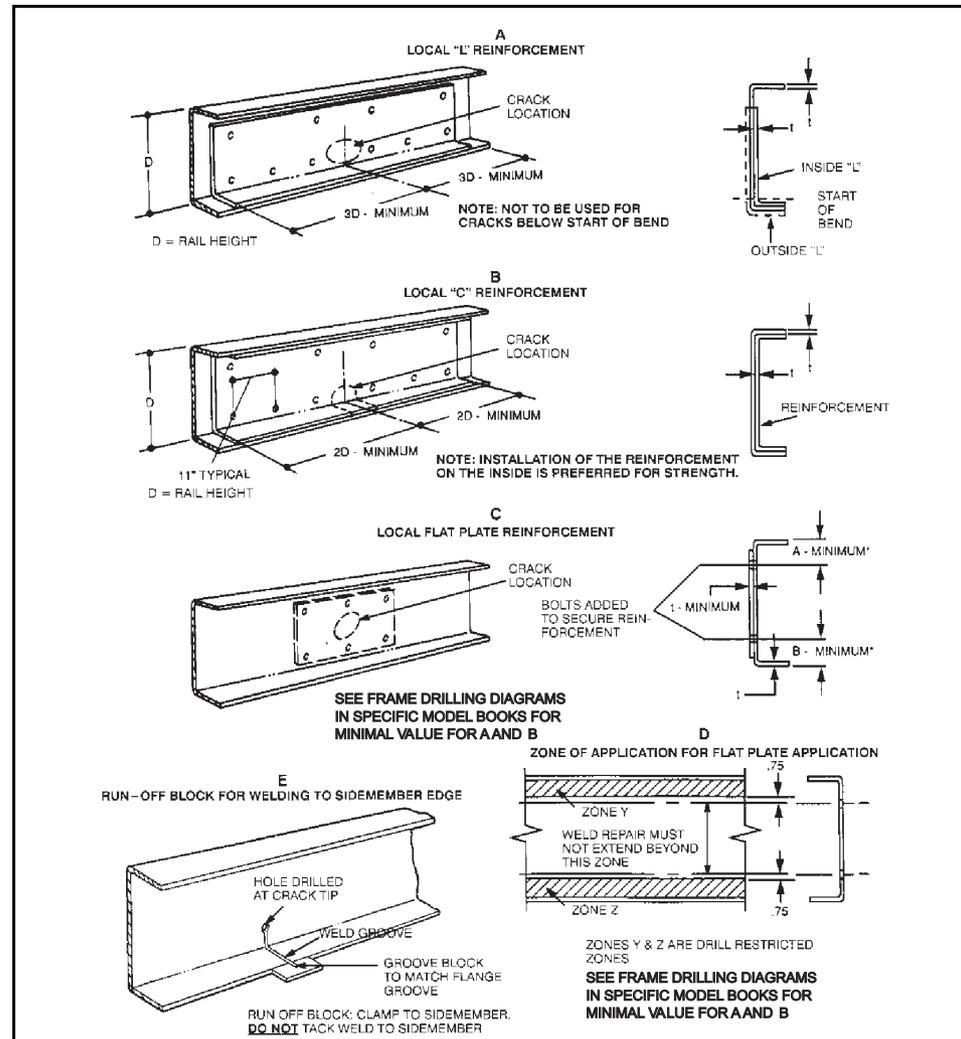

Figure 2.5 Reinforcement Application
THE TYPE, LENGTH, MATERIAL AND ATTACHMENT TECHNIQUES FOR REINFORCEMENTS VARY WITH THE TYPE AND LOCATION OF THE CRACK AND WITH THE LOADING CONDITIONS ASSOCIATED WITH THE CRACK. It is not practical to give specific recommendations for all cases of frame cracking, therefore the various types of reinforcements are identified with general descriptions of their applications and installation procedures. To aid in making the distinctions between the more critical flange area and the less critical web area, critical zones are defined (Figure 2.5 D).
Steps 1 and 2 above also apply to the full length “L” reinforcements available from International. All of these are the inverted “L” type and are designed for installation on the outside of the sidemember section (except 9000 Series) (Figure 2.5 A).
This type of reinforcement must be custom-fabricated either by cutting lengths from “full length” reinforcements or by forming from flat stock (Figure 2.5 B).
2. Recommended dimensional data and attachment specifications for a typical installation (Figure 2.5 B). Holes drilled for the attachment must be within the frame drilling guidelines in the specific model body builder book.
This type of reinforcement is recommended for cases in which the weld repair is confined to the web of the section but extends beyond the application zone of the flat plate reinforcements (Figure 2.5 D).
1. A typical installation for an “L” reinforcement on the inside of a sidemember section along with minimum recommended dimensions (Figure 2.5 A).
This reinforcement is intended for the less critical, web portion of the sidemember section where typical cracking is due to local stresses which tend to “diaphragm” or “dish” the web without creating appreciable stresses for overall bending of the section. Typical crack patterns radiate out from the edge of a mounting bracket or crossmember or from a hole in the web. Cracks which radiate from a web hole occupied by a fastener are frequently an indication of a defective joint, whether by the loosening of the fastener or poor joint design (Figure 2.5 C).
The flat plate reinforcements are recommended for weld repairs in which the weld does not extend beyond the zone (Figure 2.5 D).
1. A typical installation (Figure 2.5 C) shows the length and height of the plate will vary with the size of the weld repair area. In general it should be such that it will accommodate an array of reinforcement attachment bolts at a typical 3 to 5 inch (76 to 127 mm) spacing all around the weld repair area.